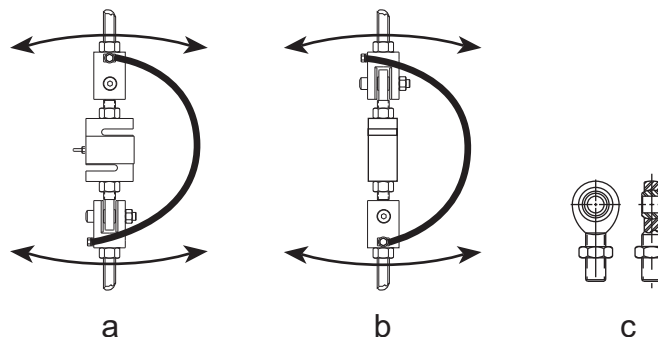

Figure 11-2. ITCM Weigh Module
Figure 11-2 illustrates the use of the ITCM weigh module. This mounting arrangement prevents most of the potential problems caused by extraneous forces acting on S-beam load cells.
- The ITCM consists of a high-precision rod end ball joint which is screwed into each end of the S-beam. The rod end ball joint has a “ball” which is free to rotate in a PTFE bearing; see Figure 11-2\(c\). A clevis is attached to the rod end ball joint using a shoulder screw.